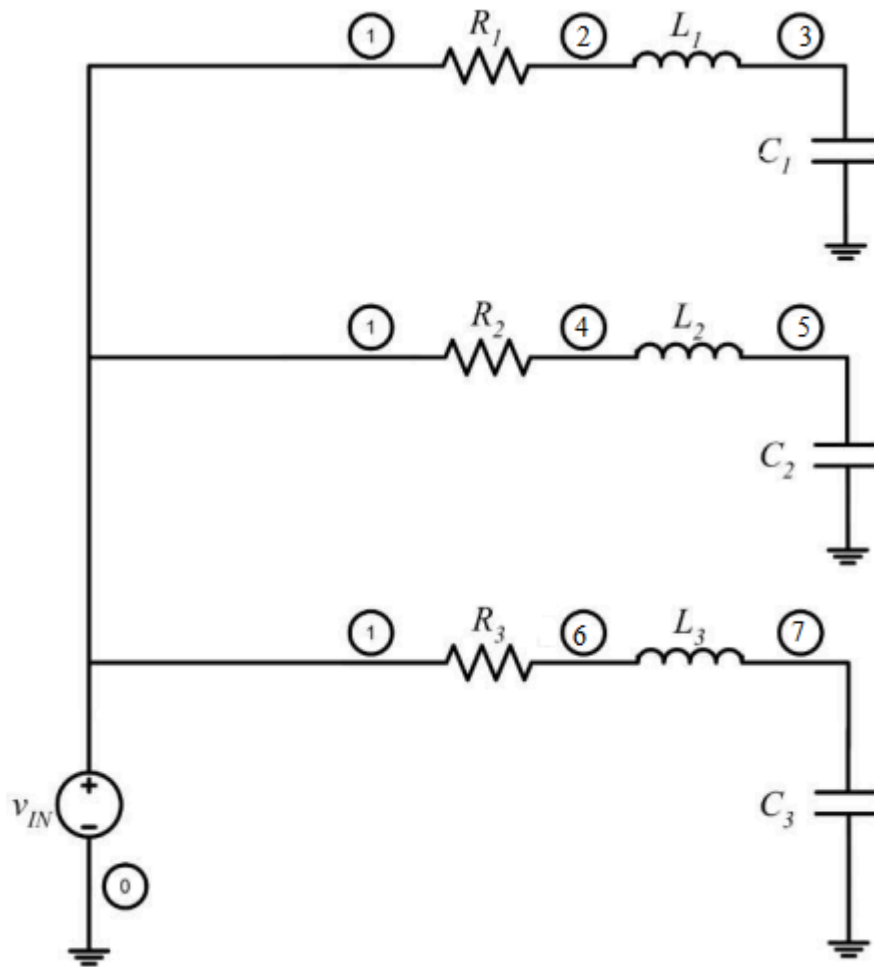

Figure 6.3
- Figure 6.3 shows three independent circuits, connected to a common input signal. This configuration will enable you to observe the under damped, critically damped and over damped cases simultaneously.
- Simulate the circuit shown in Figure 6.3, using the following values:
5. Simulate the circuit and, on the same plot, graph the input signal VIN, as well as the three output signals, V3, V5 and V7, as specified in Figure 6.3.